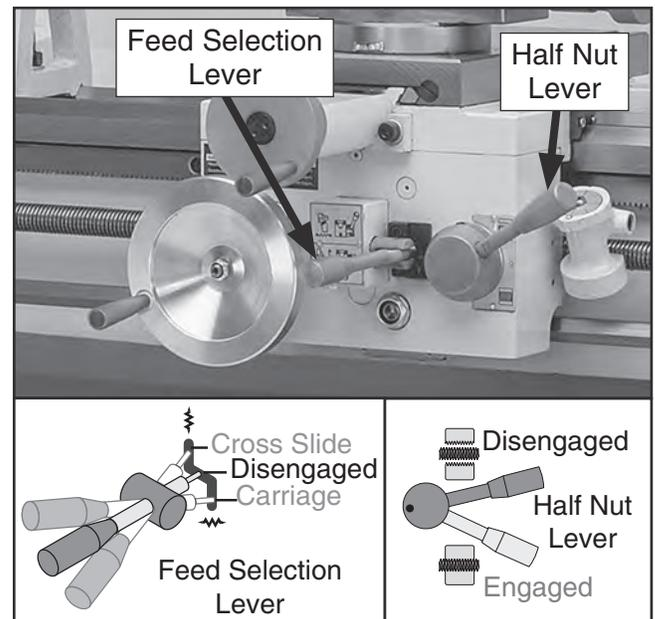

Figure 22. Disengaging carriage components.
7. To ensure carriage components do not unexpectedly move during the following steps, disengage half nut lever and feed selection lever (see **Figure 22**). Rotate carriage and cross slide handwheels back and forth while moving levers to verify they are disengaged. When disengaged, handwheels will turn easily.